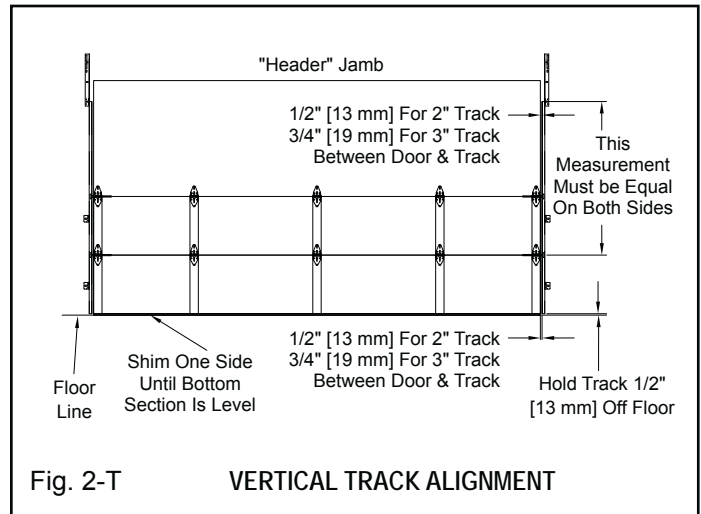
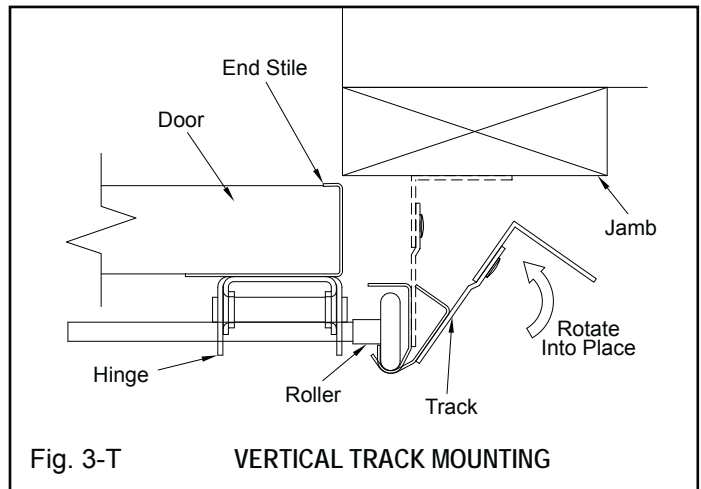
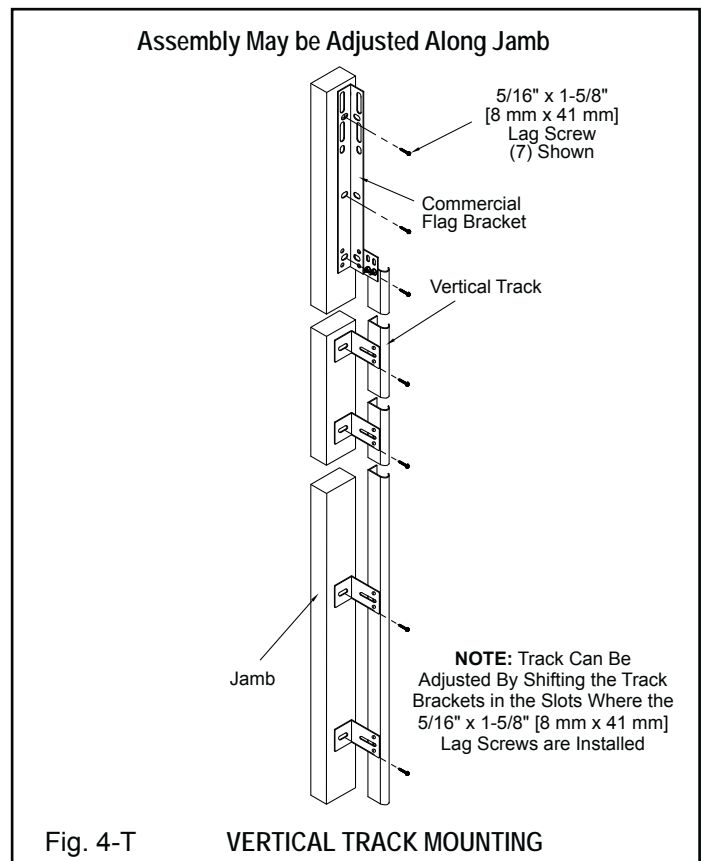

Fig. 2-T VERTICAL TRACK ALIGNMENT
Fig. 3-T VERTICAL TRACK MOUNTING
Fig. 4-T VERTICAL TRACK MOUNTING
Attach inside bolt assembly to end stile using #14 x 5/8" [6 mm x 16 mm] hex head sheet metal screws. The slide bolt must rest against the top of the engaging slot (Fig. 4-S).
Step 1: Vertical Track. Center bottom section in opening on inside of garage. Level section by shimming low side. (Fig. 2-T) Leave shims in place until door install is completed. Install the vertical track on opposite side of where block was placed, over the two rollers of the bottom section with a twisting motion. (Fig. 3-T) Raise track 1/2" [13 mm] off the floor, and screw 5/16" x 1-5/8" [8 mm x 41 mm] lags (wood jambs), or self-drilling screws (steel jambs) through bottom mounting bracket. (Fig. 4-T) Adjust track sideways to allow 1/4" [6 mm] end play in roller about 1/2" [13 mm] (2" track) or 3/4" [19 mm] (3" track) from edge of track to edge of door. (Fig. 2-T) Plumb vertical track and put at least two lags or sheet metal screws in the mounting brackets at the top of the door. Final adjustment will be made after door is stacked. Measure from the top of the vertical track to the top of the bottom section and set the opposite track at exact same height repeating above procedure. (Fig. 2-T) Since the bottom section is level, then the vertical tracks must be level. **Make sure bottom rollers do not come out of the bottom of the track.**
Step 3: Finishing Vertical Track. Set the top of the vertical tracks so that there is 1/4" [6 mm] end play in the rollers, about 1/2" [13 mm] (2" track) or 3/4" [19 mm] (3" track) from edge of track to edge of door. (Fig. 2-T) Finish attaching vertical track to the wall. If you are mounting to steel jambs, you will have to wait until you can raise the door to finish attaching vertical tracks.